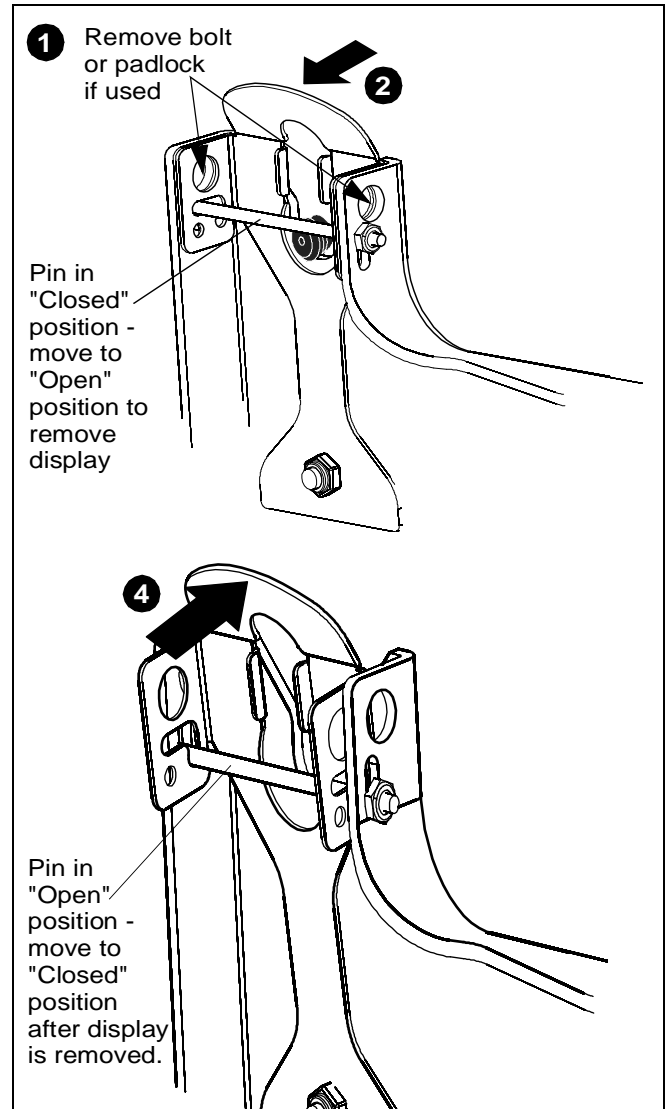

Figure 19
2. Pull back on flag on upper mounting hole and press pin down into "Open" position. (See Figure 19)